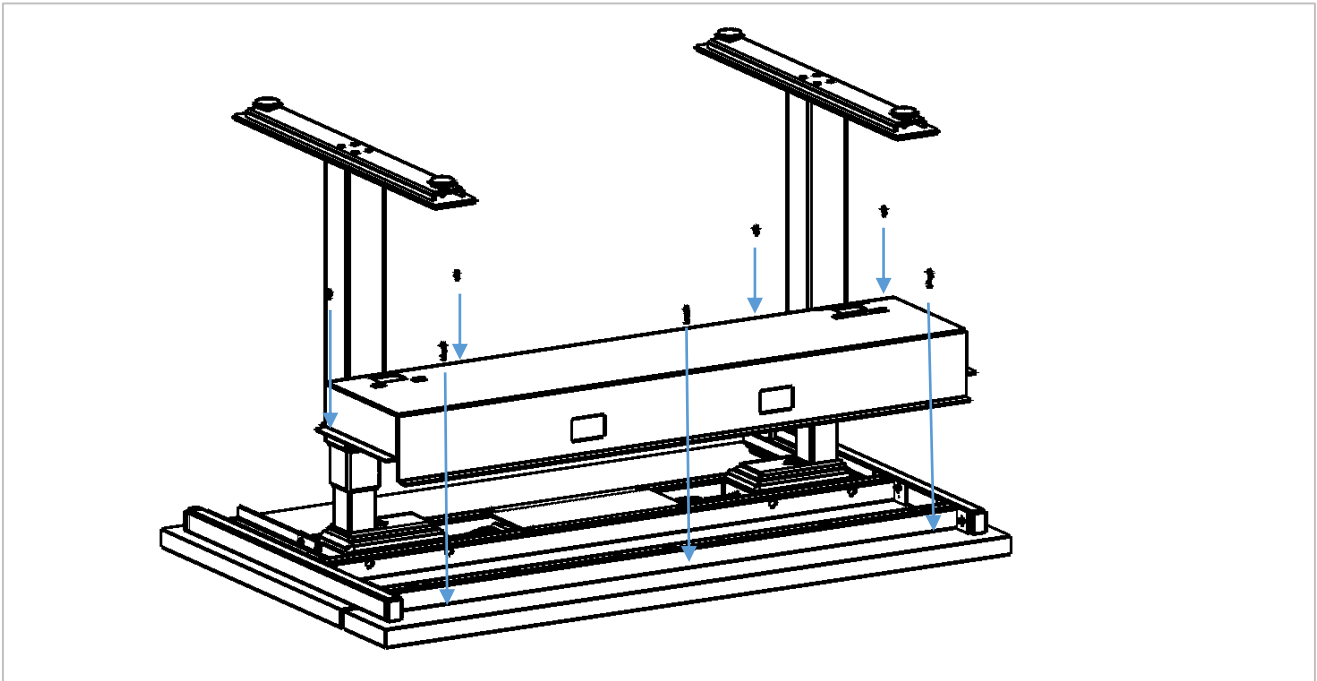

Figure 4.3.1
Fully tighten the (2) M6 bolts from Figure 4.3.1
Repeat steps from Figure 4.3.1 through 4.3.4 for the second leg column.